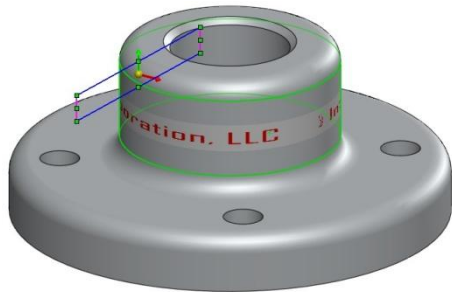
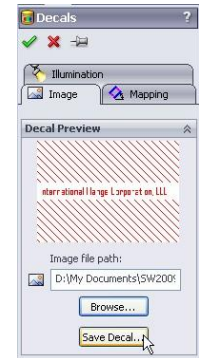

Figure 23
Figure 22
**Click the Browse button, and navigate to find the “flangedecal” bitmap that you saved, and click Open (Figure 22). Click the Save Decal.. button in the Decals Manager (Figure 23).**